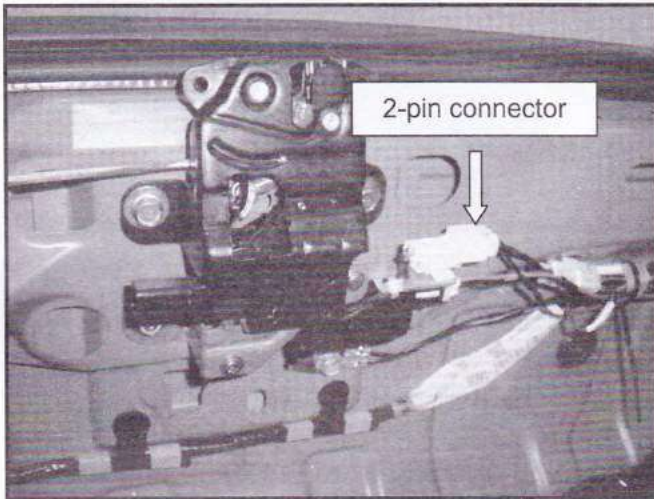

figure 17
2. Locate and remove the 2-pin connector from the boot latch mechanism as shown in figure 17.